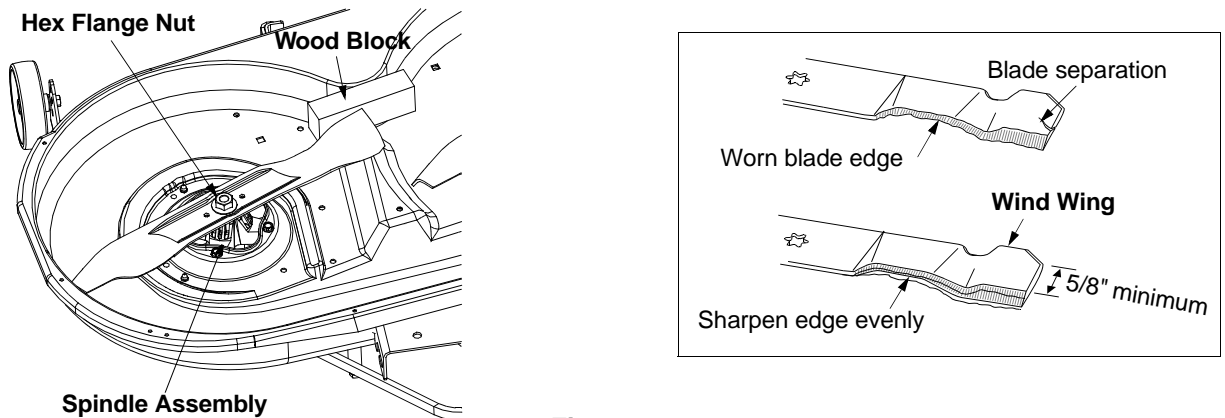

Figure 14
2. Place a block of wood between the center deck housing baffle and the cutting blade to act as a stabilizer. See Figure 14.
3. Use a 15/16" wrench, remove the hex flange nut that secures the blade to the spindle assembly. See Figure 14.
4. To properly sharpen the cutting blades, remove equal amounts of metal from both ends of the blades along the cutting edges, parallel to the trailing edge, at a 25° to 30° angle. See Figure 14.
- If the cutting edge of the blade has already been sharpened to within 5/8" of the wind wing radius, or if any metal separation is present, replace the blades with new ones. See Figure 14.